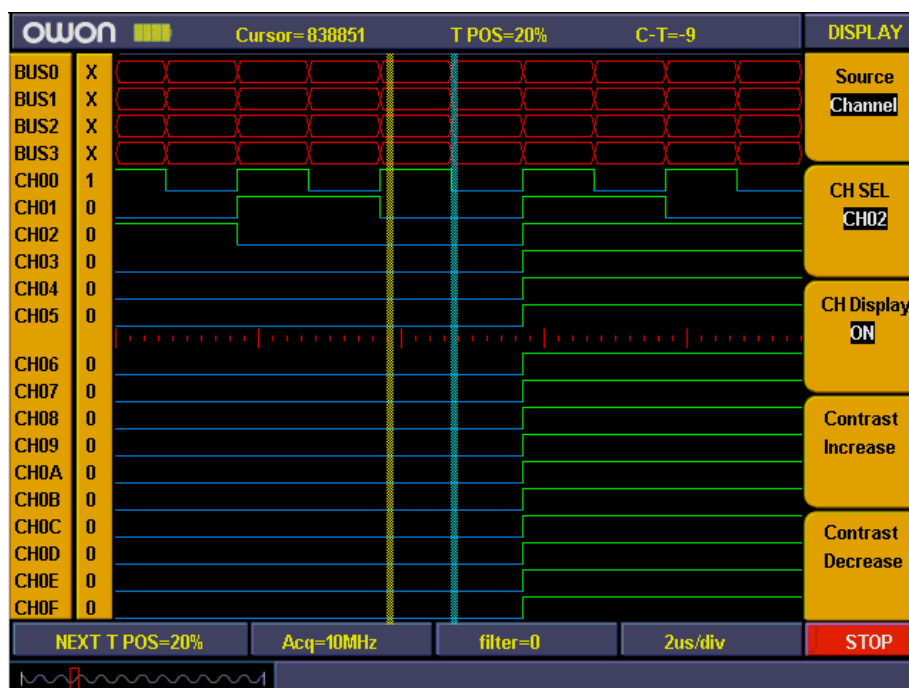

Fig.13
4. Press “**F3**” and set the signal sources as “**ON**”. Repeat operation of steps 3.4 and set CH01, CH02 as “**ON**” and CH03-CH0F as “**OFF**”. Refer to Fig.13
Now display panel only show CH00、CH01、CH02 and others channel and bus are all off. Ref to Fig.13